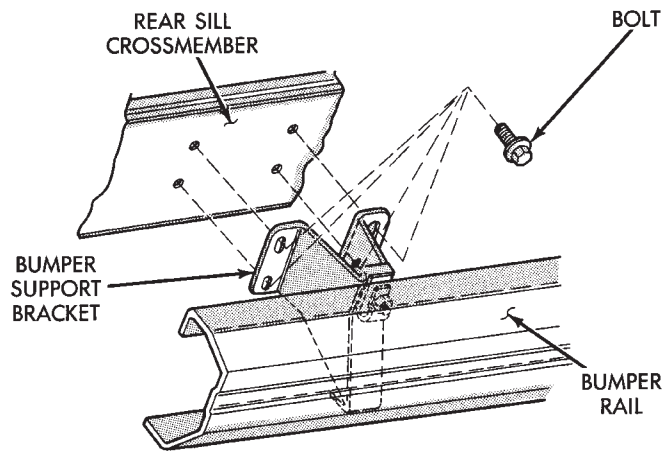
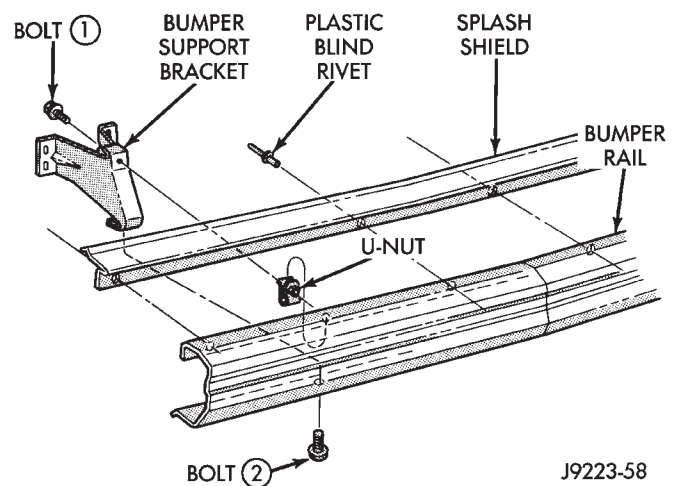

Fig. 12 Rear Bumper Removal/Installation—XJ Vehicles
Fig. 13 Bumper Bracket & Splash Shield Removal/Installation—XJ Vehicles
(1) For vehicles equipped with a trailer hitch, remove the hitch before removing the bumper. If necessary, refer to the removal procedure within Group 23, Body Components.
(2) Raise and support the rear of the vehicle.
(3) Support the bumper.
(4) Remove the bolts that attach the bumper support brackets to the sill crossmember (Fig. 12).
(5) Remove the support and the rear bumper from the vehicle.
(6) Remove the bumper support brackets and splash shield the bumper, if necessary (Fig. 13).